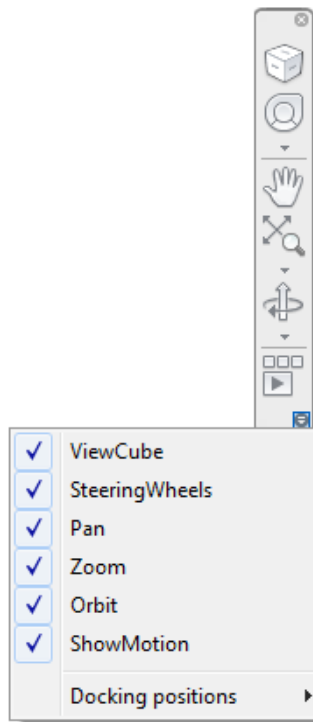

Figure Step 11
Step 11 Click the small arrow located at bottom right corner of the Navigation Bar to pull down its menu. Ensure that all six item are enabled as shown in the figure. (Figure Step 11)